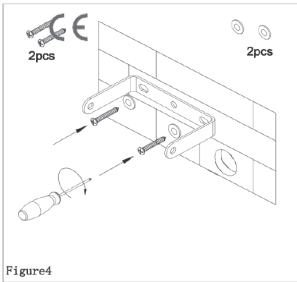

Figure4
4. Screw the bracket to the wall (fig.4).